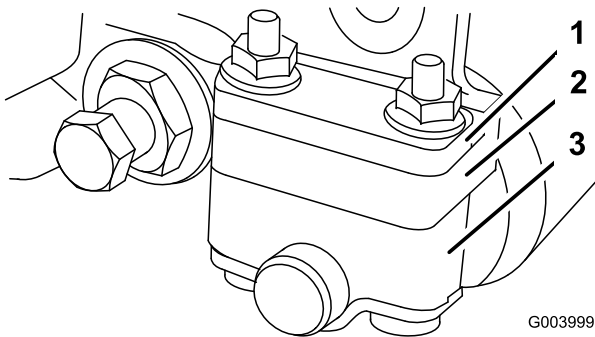
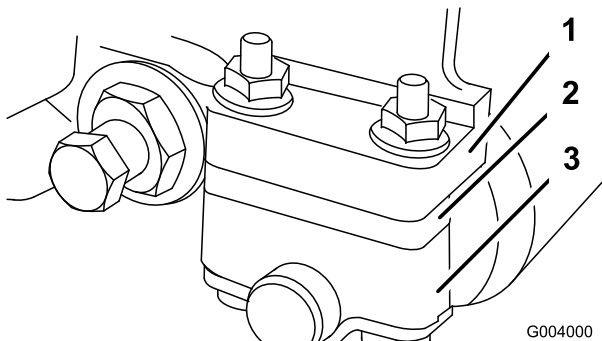

Figure 49
Figure 50
1. Adjust the rear roller brackets to the low or high position depending on desired height of cut range (Figure 49 and Figure 50).
- Position the spacer below the sideplate mounting flange when height of cut settings range from 1/8" to 1" (Figure 50).